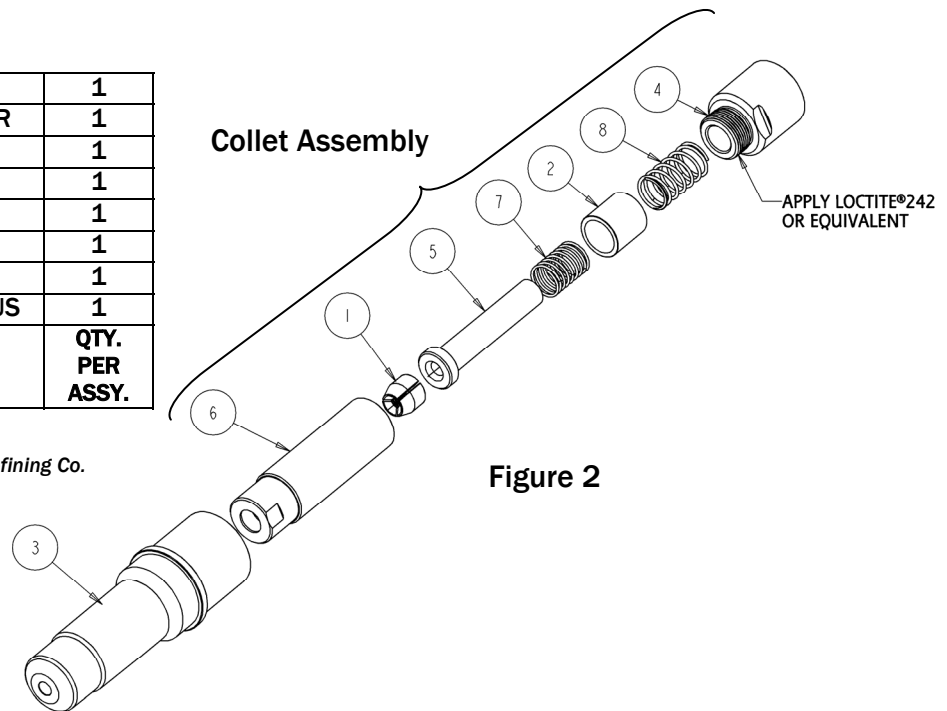

Figure 2
- Before mounting the H84BR-568 Pulling Head, make sure all components are available for assembly and in good condition. (See figure 2)
- To unmount the pulling head from the riveter, use removal wrench 975-023 applied to the flats on the drawbar adapter (item 4).